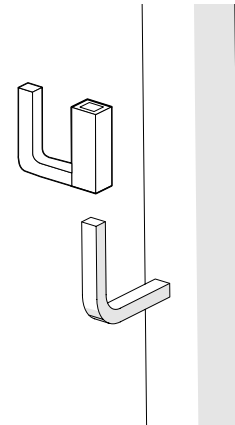

Fig. 1
1. The Corner Fence Bracket simply slides over the top handrail holder. Fig 1.